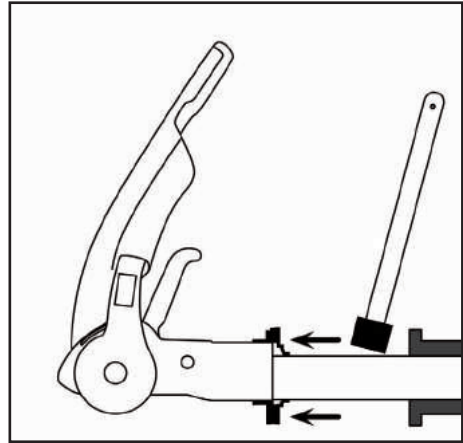

FIG. 7.
2. Lubricate the draw-shaft sleeve via the grease nipples. In addition, push the gaiter forward and grease (DIN 51 825 KTA 3K) the exposed part of the shaft (Fig. 7).